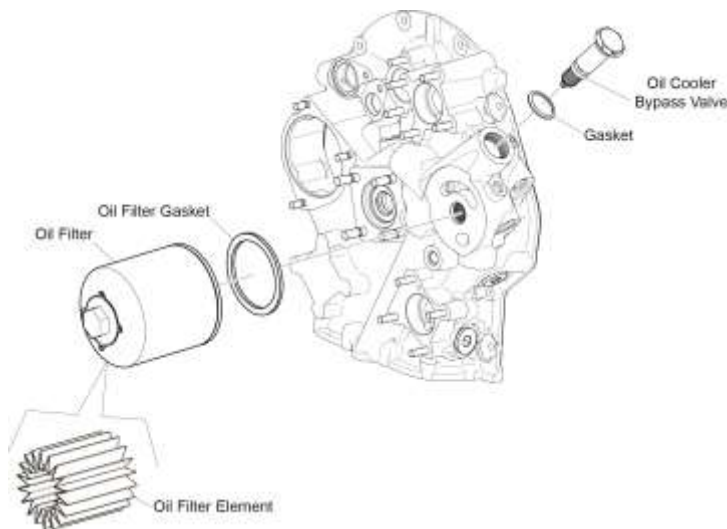

Figure 5
- C. Remove the oil filter (Figure 5) from the oil filter base.
- F. Install the new oil filter on the oil filter base as shown in Figure 5.